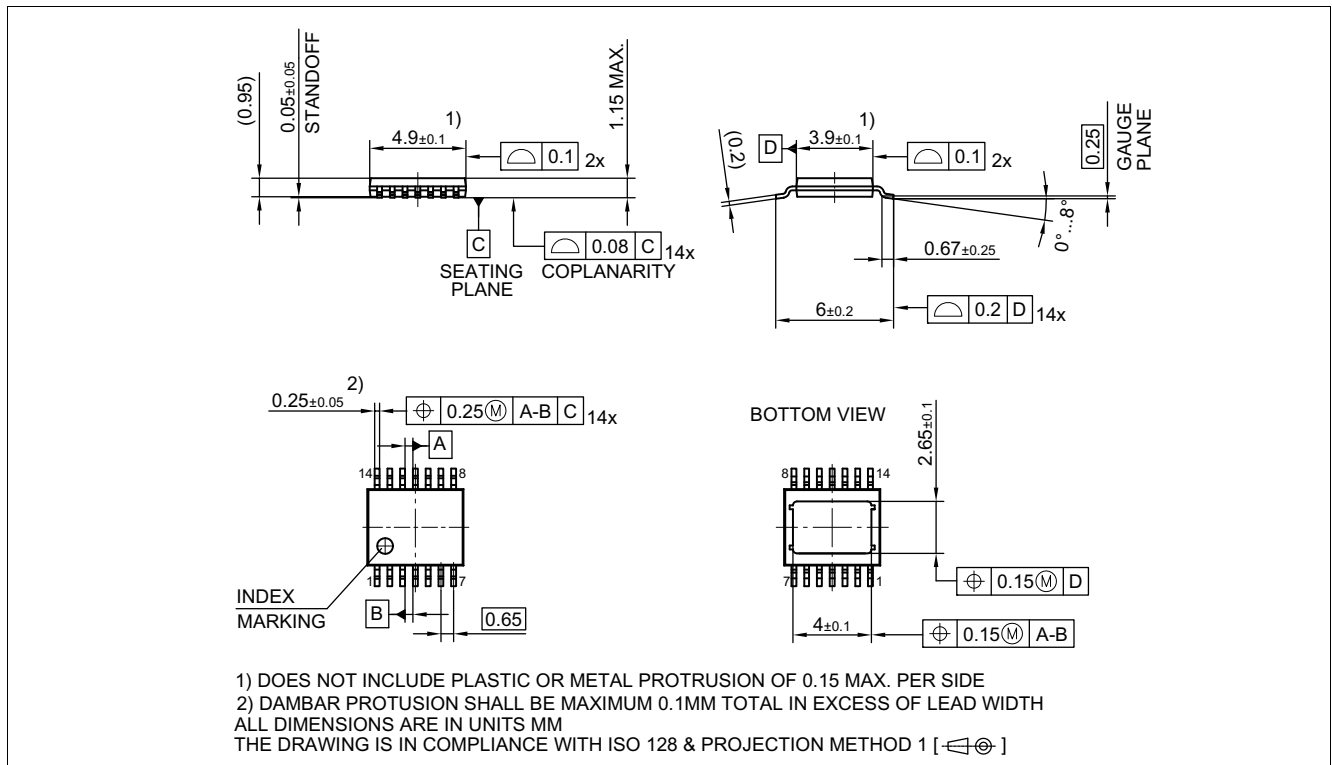
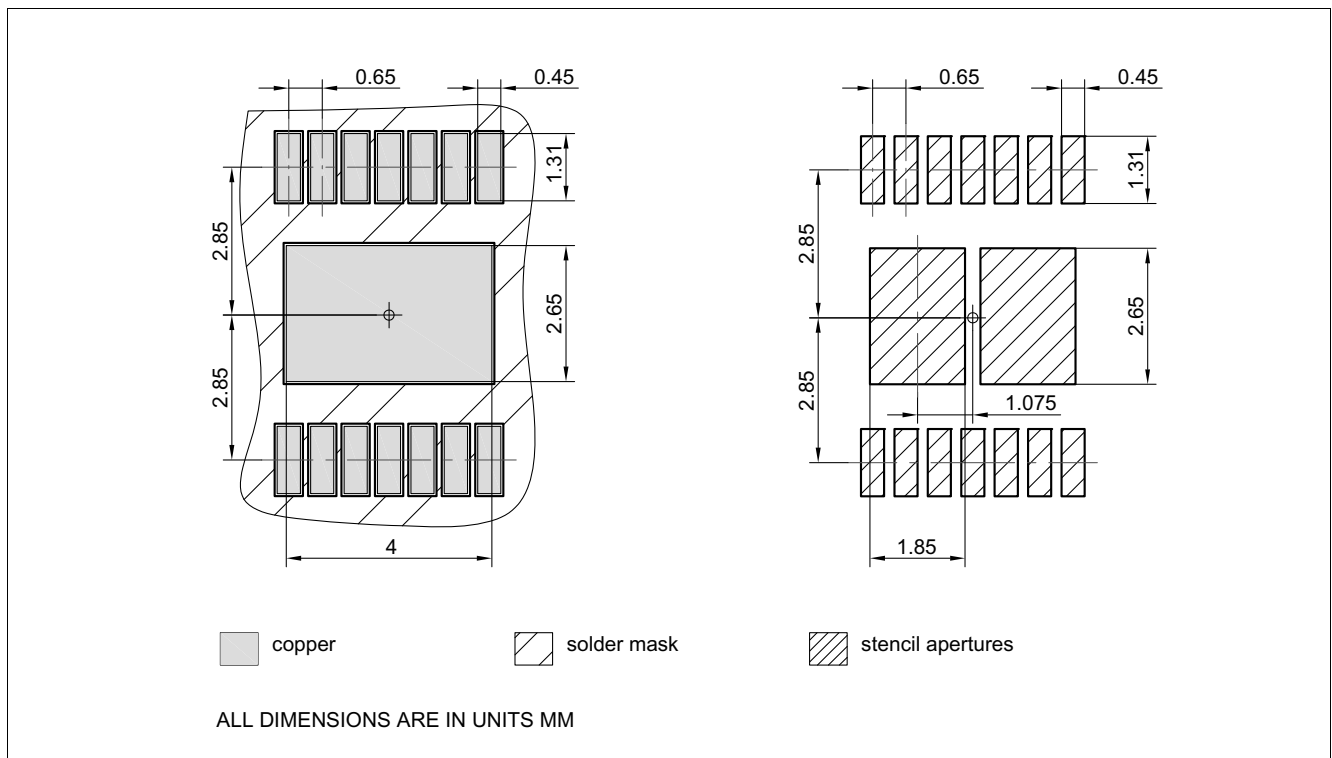

Figure 38 PG-TSDSO-14 (Thin (Slim) Dual Small Outline 14 pins) Package Outline
Figure 39 PG-TSDSO-14 (Thin (Slim) Dual Small Outline 14 pins) Package pads and stencil
1.02, 2019-02-05	<p>Figure 9, Figure 10 updated</p> <p>Page 1: updated (figure product)</p> <p>Table 22 updated (punctuation)</p> <p>Chapter 9.3, Chapter 9.3.1 updated (typo)</p> <p>Page 1: updated (Package PG-TSDSO-14-22 → Package PG-TSDSO-14)</p> <p>Figure 38 updated (PG-TSDSO-14-22 (Thin (Slim) Dual Small Outline 14 pins) Package Outline → PG-TSDSO-14 (Thin (Slim) Dual Small Outline 14 pins) Package Outline)</p> <p>Figure 39 updated (PG-TSDSO-14-22 (Thin (Slim) Dual Small Outline 14 pins) Package pads and stencil → PG-TSDSO-14 (Thin (Slim) Dual Small Outline 14 pins) Package pads and stencil)</p> <p>Table 1 updated (Parameter: Minimum Overvoltage protection ($T_J = 25\text{ °C}$) → Minimum Overvoltage protection ($T_J \geq 25\text{ °C}$))</p> <p>Table 1 updated (corrected typo in table Product Summary: $I_{VS(OFF)}$: 1 → 0.9 μA)</p> <p>Table 1 updated (Symbol: $I_{VS(OFF)}$ → $I_{VS(OFF)_85}$)</p> <p>P_6.5.20.1 updated (Symbol: $I_{VS(OFF)}$ → $I_{VS(OFF)_85}$)</p> <p>P_6.5.20.2 updated (Symbol: $I_{VS(OFF)}$ → $I_{VS(OFF)_150}$)</p> <p>P_9.7.10.27, P_9.7.10.29 updated (Note or Test Condition: formatted physical symbols as subscript)</p>